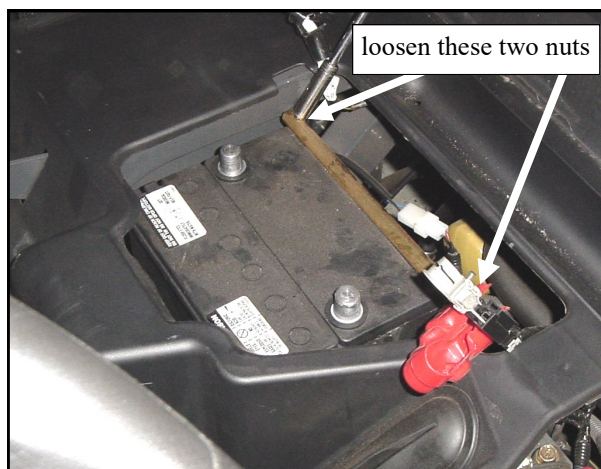

Fig. 1.2 (view of battery from driver's side) (RTV 500 shown)
1.2 Per fig. 1.2, disconnect the positive battery terminal and then the negative battery terminal. Loosen the two nuts holding the retaining bar against the battery. Rotate the threaded rod and retaining bar assembly back and down to remove the battery.